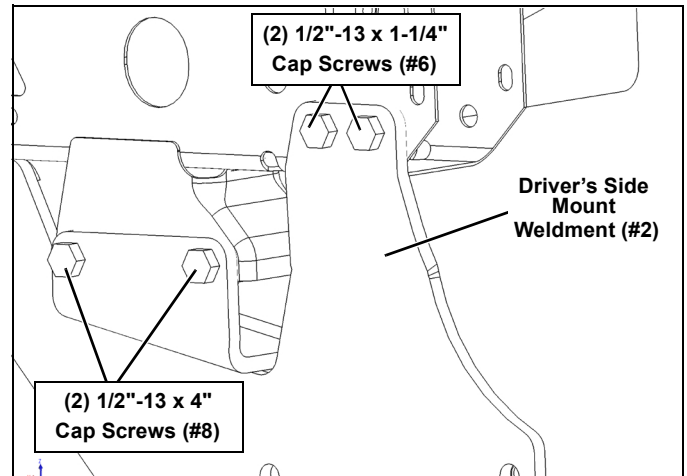

Figure 4
- Tow hooks that mount in the same holes as the 1-1/4" Cap Screws in Figure 4 will need to be removed. Retain with hardware, for use if vehicle mount kit is ever removed.
- Hold the Driver's Side Mount Weldment (#2) to the driver side frame rail. Align the two front holes and two middle holes with the holes in the frame. (See Figure 4.)
- In the front holes, attach using (2) 1/2"-13 x 1-1/4" Cap Screws (#6) and (2) 1/2"-13 Locknuts (#10). (See Figure 4.)
- In the middle holes, attach using (2) 1/2"-13 x 4" Cap Screws (#8) and (2) 1/2"-13 Locknuts (#10). (See Figure 4.) If there is anything obstructing the hardware from assembling as shown, a 2nd option is available. Reverse the assembly direction of the (2) 1/2"-13 x 4" Cap Screws (#8), but in the rear Cap Screw place on a 1/2" Lock Washer (#5) first, then place into the frame and out the Mount Weldment. Place a 1/2"-13 Locknut (#10) on the front Cap Screw and a 1/2"-13 Hex Nut (#12) on the rear Cap Screw that has the Lock Washer. (See Parts List for Option 2.)